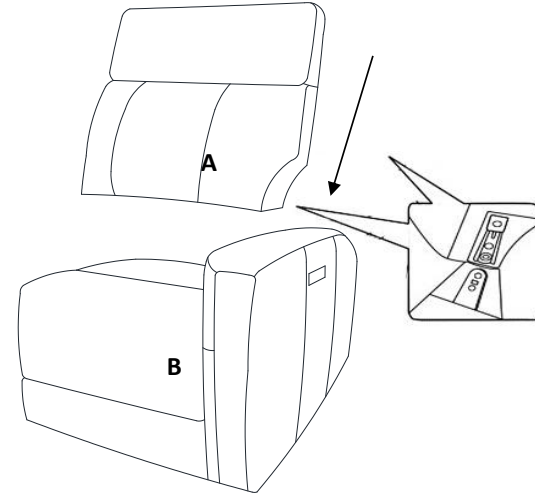

Figure 2
Attach the Back (A) to the Seat (B). Ensure the latches fit well. (See Figure 2.)